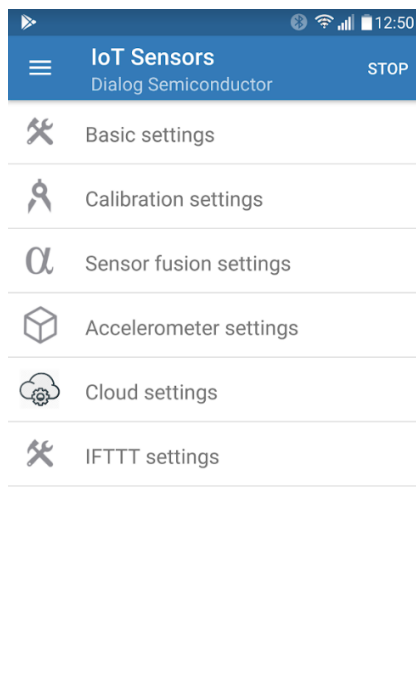

Figure 37: Settings Menu of Dialog IoT Sensors App
3. Choose “Settings” and the settings menu appears (Figure 37).